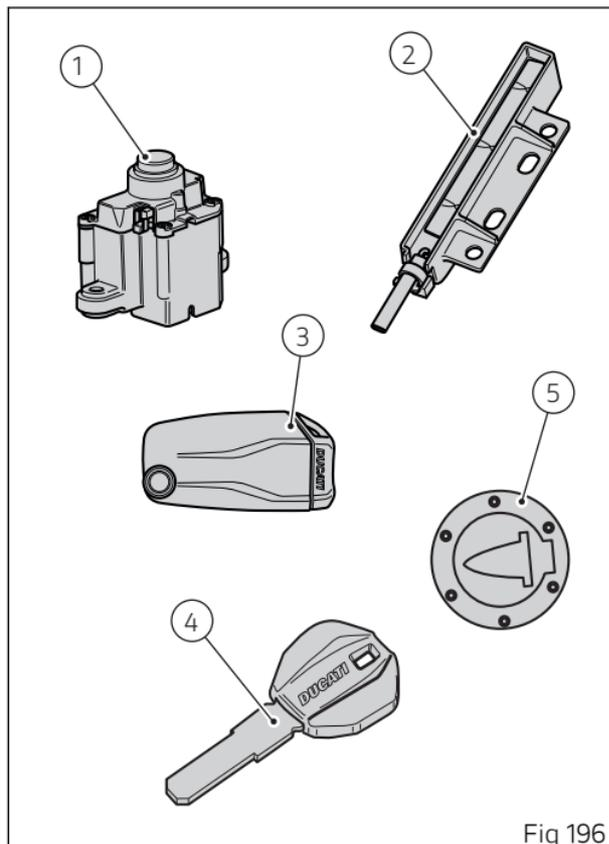

Fig 196
The "Hands free" unit (1, Fig 196) is located on tank front side and can be accessed by pulling up and removing protection cover (8).
Key-On can be performed by pressing button (6) on the handlebar and with the presence of the active key (3, Fig 196).
Key-Off can be performed by pressing the button (6) on the handlebar. It can also be performed without the key (3, Fig 196) only if motorcycle speed is equal to zero.
Key-On can be performed by pressing button (7) on the Hands free unit (1, Fig 196) and with the presence of the active key (3, Fig 196).
Key-Off can be performed by pressing button (7) on the Hands free lock (1, Fig 196), also without the key (3, Fig 196).
Key-On can be performed by pressing the grey button (6) on the handlebar and with the presence of the passive key (4, Fig 196).
Key-Off can be performed by pressing the grey button (6) on the handlebar. It can also be performed without the key (4, Fig 196) only if motorcycle speed is equal to zero.
Key-On can be performed by pressing button (7) on the Hands free lock and with the presence of the passive key (4, Fig 196).
Key-Off can be performed by pressing button (7) on the Hands free lock (1, Fig 196), also without the key (4, Fig 196).
Key-On can be performed by pressing button (7) on the hands free lock (1, Fig 196) without the presence of the keys (3) and (4) and entering the pin code on the instrument panel.